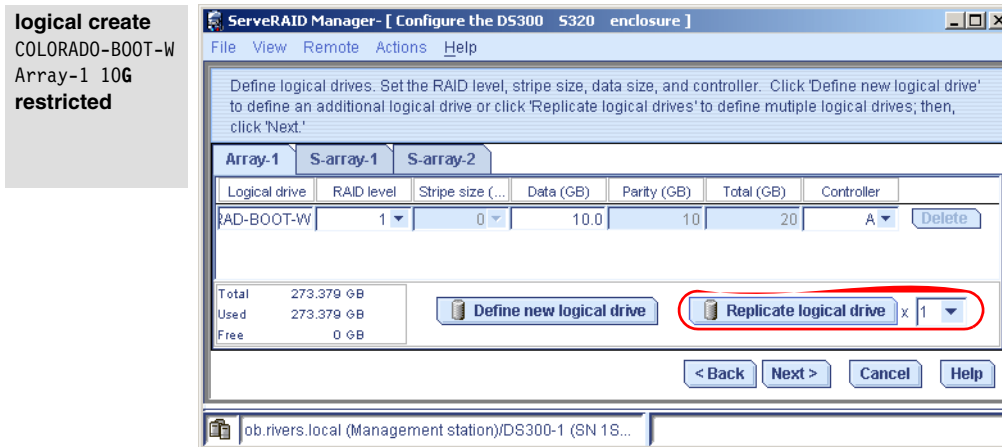

Figure 4-70 Logical drive COLORADO-BOOT-W
15. The window shown in Figure 4-70 allows you to create logical drives in all defined arrays. The first logical drive in each array is already defined with the maximum logical drive size. Enter a meaningful logical drive name. This logical drive name will be part of the IQN of the device and is visible on the iSCSI initiator. Select the RAID level. This RAID level is determined by the number of drives in the array. For a spanned array, the number of drives in the base array determines if a RAID 10 or 50 will be defined. Specify how large the logical drive will be. Choose the preferred controller.
16. In Figure 4-70, the **Define new logical drive** button creates a new logical drive. The size will be the same as the remaining free space.